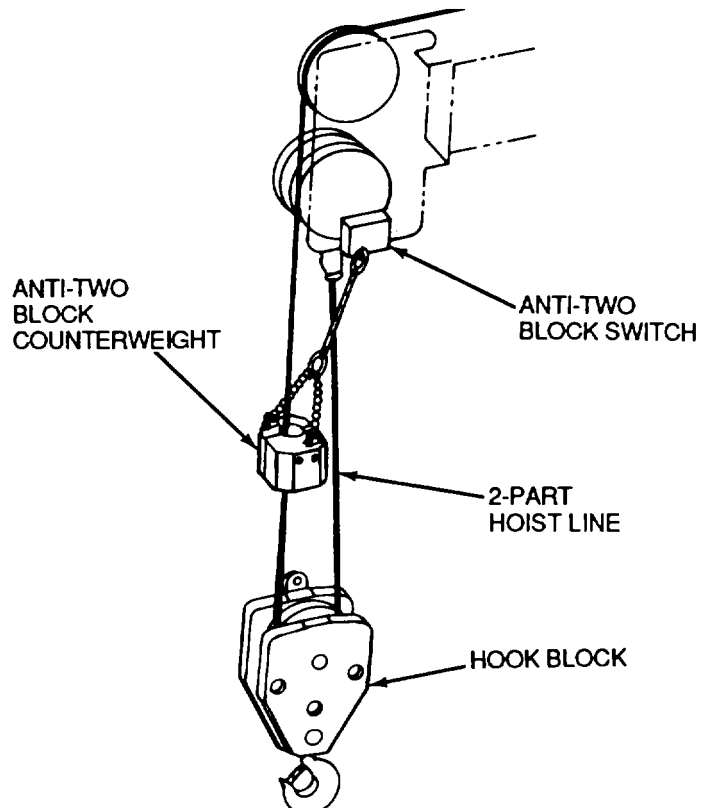

Figure 5-2. *Anti-Two Block Counterweight, Switch and Hook Block*
1. Install anti-two block counterweight (Figure 5-2) as follows: